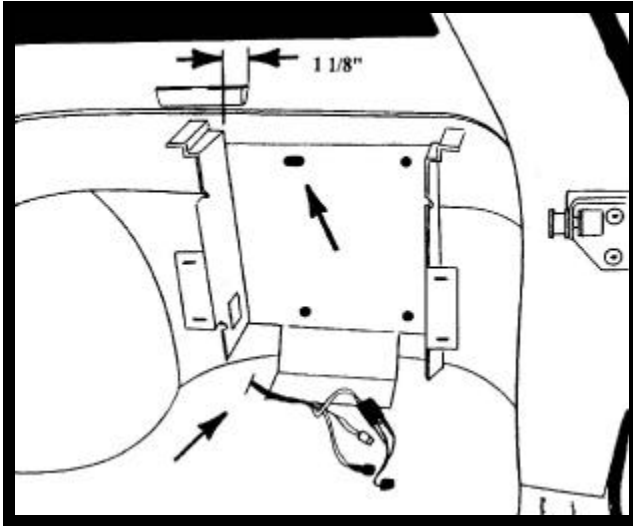

FIGURE 1
1. Route video and audio cables to passenger's side rear of vehicle. Using a razor knife, carefully cut a slit in carpet to allow cables to pass through. Make sure wiring will not rub against edge of bracket. Position VCP mounting bracket (item 3 pg 2) against side panel and 1 1/8" from back edge of ledge on side panel as shown. Make sure bottom of bracket is firmly resting on floor of vehicle. Mark the center of slot on side panel. See Figure 1.